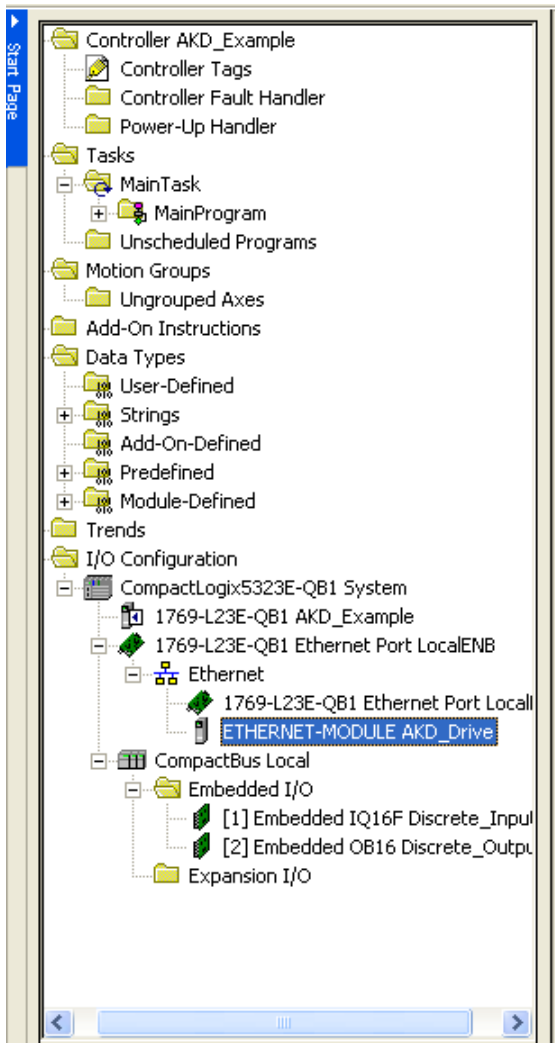

Figure 5-5: Module Successfully Added to Project
6. The drive should now be configured and will show up under the Ethernet Port (Figure 5-5: Module Successfully Added to Project)